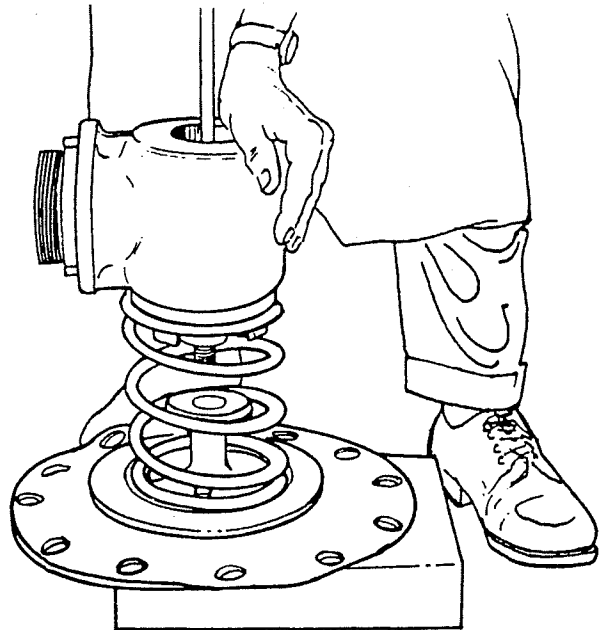

FIGURE 24
- a. Loosen assembly bolt (6).
- b. Compress spring (12) by pushing down on relief valve housing (3).
- c. Remove assembly bolt (6) with socket wrench. This releases guide (7) and
- d. spacer (9). Allow spring to extend. The housing will now lift away from the inside spacer (13) (Fig. 24).
- d. Loosen lower seat (11) with seat wrench.
- f. Loosen and remove upper seat (5) with seat wrench.
- g. Loosen and remove clamp nut (16), diaphragm plate (15) and diaphragm (14).